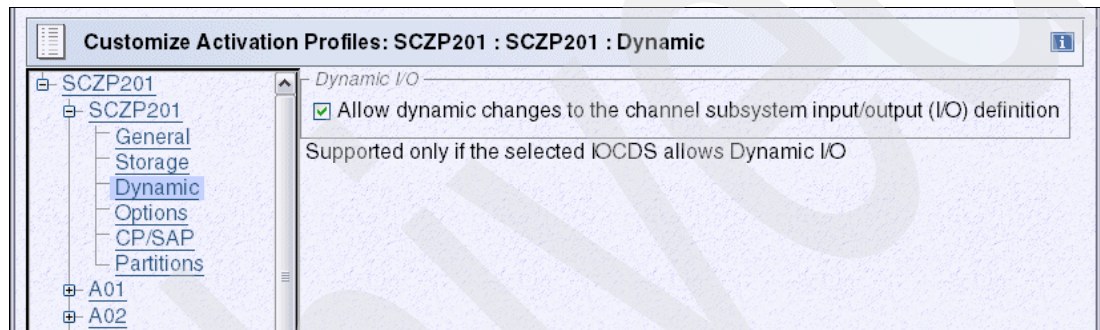

Figure 9-5 HMC - Dynamic section in reset profile
1. Before dynamically activating the production IODF that contains the definition of the newly named logical partition, you have to verify that the processor is enabled for dynamic activation. From the Dynamic section in the activation profile of the CPC on the HMC application, verify that the **Allow dynamic I/O changes to the channel subsystem I/O definition** option is checked. This option *must* have already been enabled before the last power-on reset of the System z10 EC (Figure 9-5). If this isn't the case, a power-on reset is needed to change the reserved logical partition to a named logical partition.